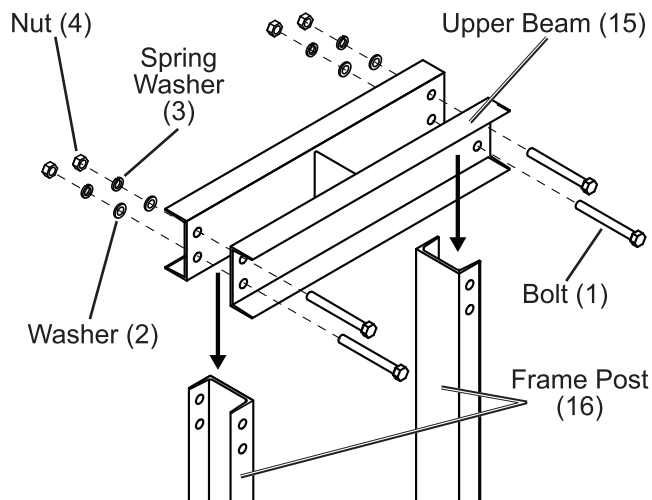

Figure 4
- Align the holes on the Upper Beam (15) with the holes in the top of the Frame Posts (16) and secure in place with the Bolts (1), Washers (2), Spring Washers (3), and Nuts (4). Align the Upper Beam with the bottle jack bracket on the bottom. Check that the assembly is square, then finish tightening bolts. See Figure 4.